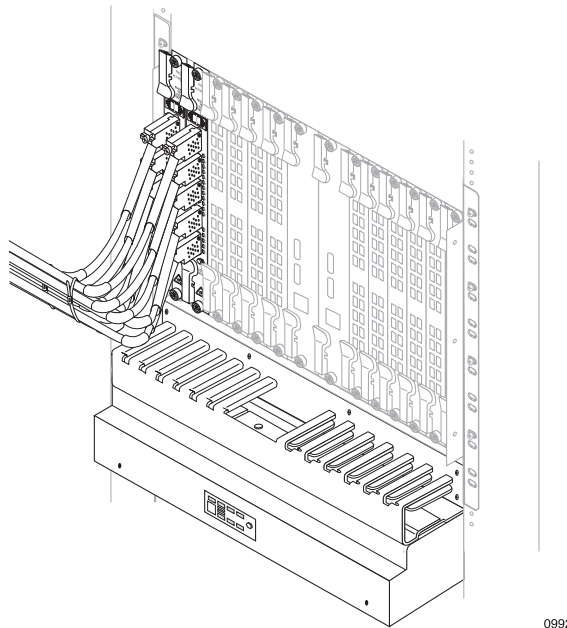

Figure 21 Routing an FE–GE Breakout Cable
- c Place the cable on top of the cable tray, and route the cable to the left, regardless of the slot in which you have installed the FE–GE line card; see Figure 21. This routing direction is compatible with the construction of the cable (the attachment of the MRJ21 connector to the cable itself).